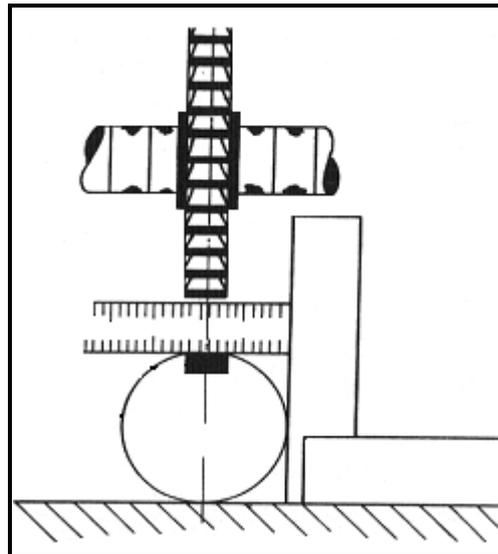

FIGURE 1.1
1.7 Which milling procedure is shown in FIGURE 1.1?